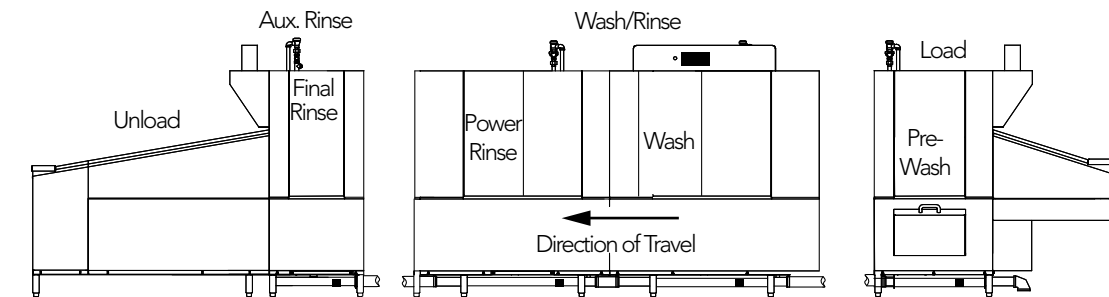

Fig. 1 -
- Flight-type dishwashers come in a number of sizes and configurations. A basic design is shown below (Fig. 1).